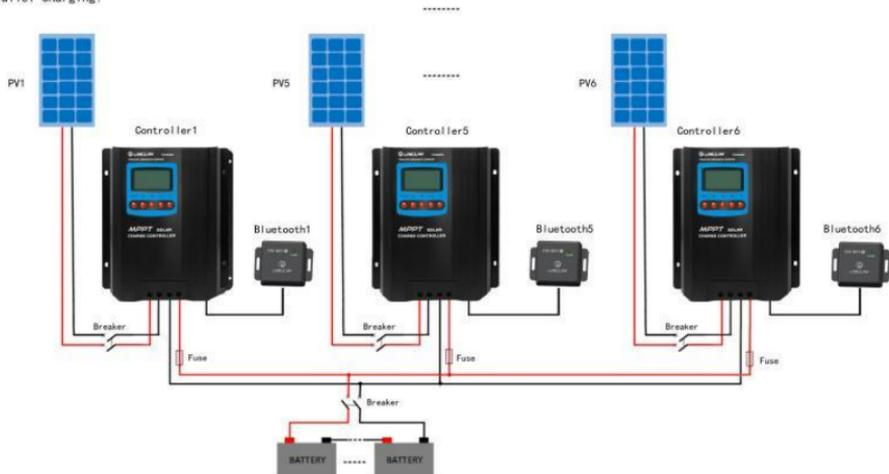

Figure 2-2 Schematic of wiring diagram
Connect the system in the order of **①** battery **②** PV array in accordance with Figure 2-2, "Schematic Wiring Diagram". and disconnect the system in the reverse order **②①**.
① Single controller
② Connection in parallel